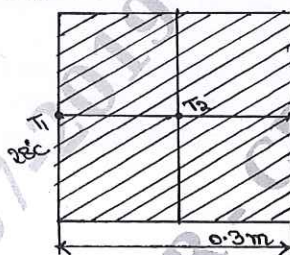

Fig.Q8(a)
- 8 a. For the brick wall shown in Fig.Q8(a), the inner surface temperature is 28°C and outer surface is exposed to cold air at -15°C . Determine the temperature distribution in steady state, within the wall by considering two elements, one dimensional heat flow elements. What is heat flux through the wall? (10 Marks)